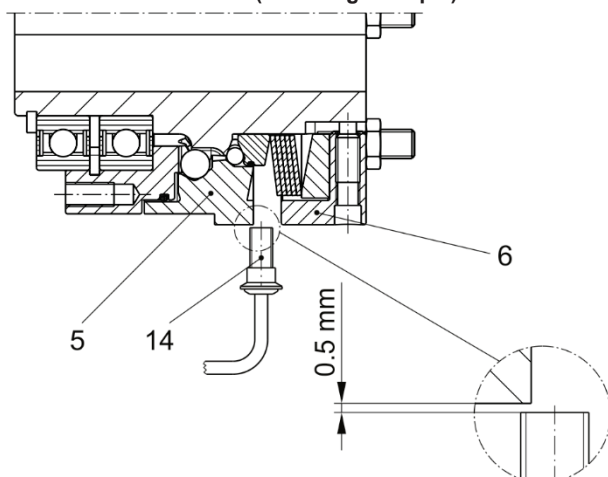

Fig. 15
In order to limit run-out times after overload has taken place, a limit switch must be mounted onto the overload clutch. The contactless limit switch is to be mounted onto the switching edge of the clutch (Fig. 15) so that no signal changes are caused during normal operation on the limit switch by the usual clutch run-out errors.
- ☐ Adjust the switch distance for the contactless Ex-limit switch acc. Fig. 15.